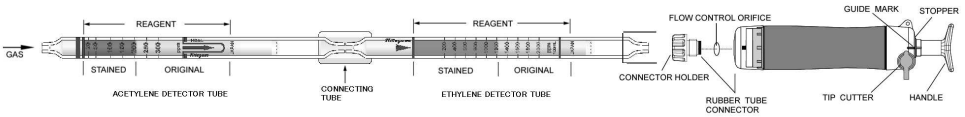

Fig. 1
- ① Break both ends of the detector tubes and connect each end of the detector tubes with connecting tube as shown in Fig.1.
- ② Insert the end of the detector tube into the aspirating pump securely as shown in Fig.1. (Arrow marks shall point to the pump.)
- ③ Align the guide marks on the handle and stopper of the aspirating pump.
- ④ Pull the pump handle at a full stroke until it locks and wait for 3 minutes or until the completion of sampling is confirmed with the flow indicator of the pump. (See descriptions about the flow indicator in the instruction manual of the pump.)
- ⑤ On completion of sampling, read the scales at the maximum point of the stained layer.